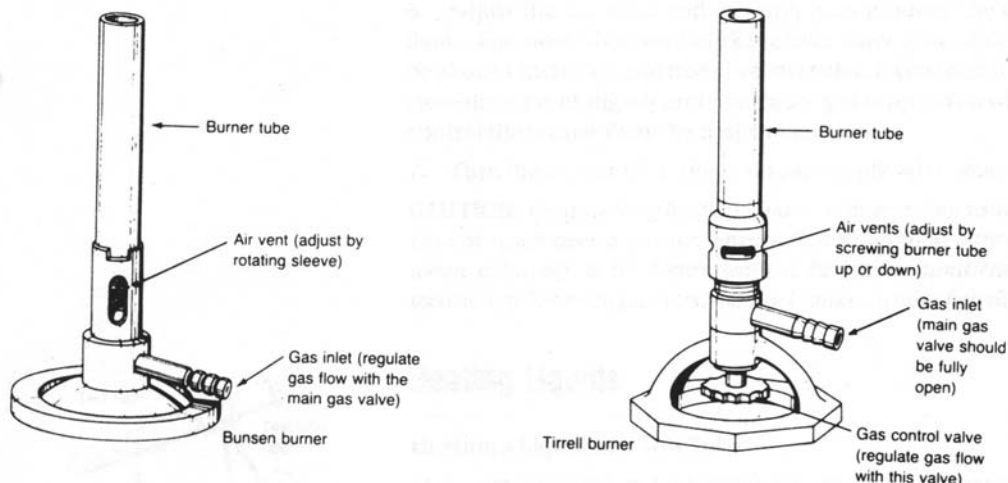

Figure 1: The Lab Burners
1. Examine your burner when it is not connected to the gas outlet. If your burner is the type that can be taken apart, unscrew the barrel (or burner tube) from the base and locate the parts shown in Figure 1, think about their functions.